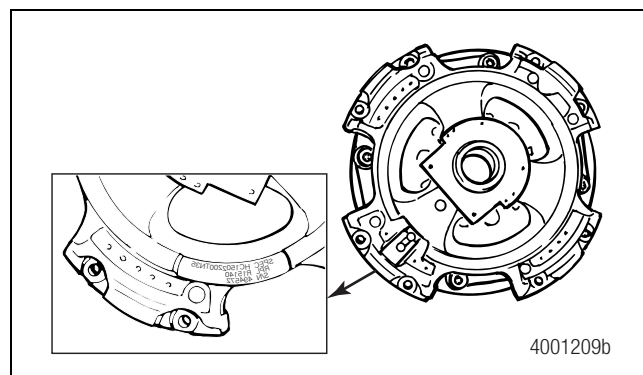

Figure 3.5
- For clutch models manufactured on or after May 1999: Refer to the identification and serial numbers etched on the clutch housing. Figure 3.5.